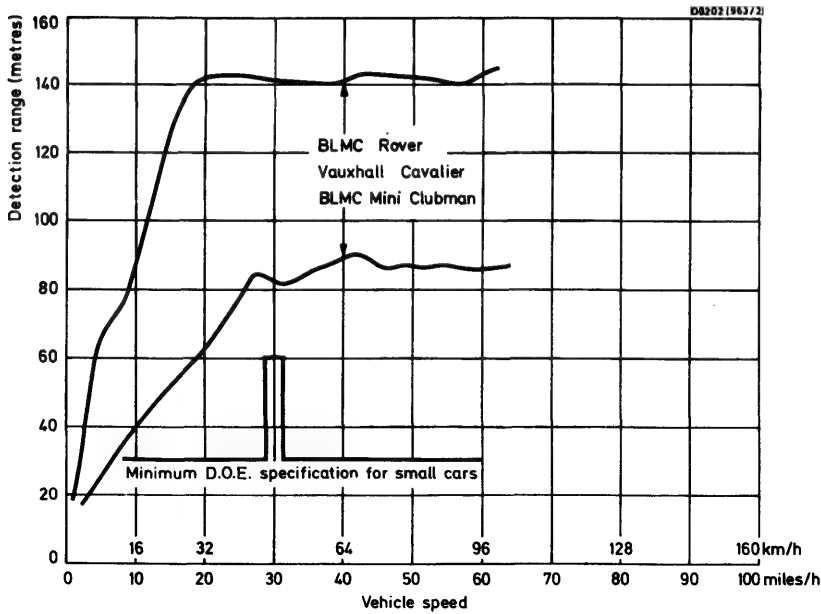

Fig.2 Detection curves obtained from road tests using six different traffic radar sensors
3. Arrange for a vehicle, preferably a small car, to be driven towards and past the sensor at approximately 30 m.p.h. When the car is between 140 and 80 metres from the sensor (see fig.2), the measured resistance between the normally-closed contacts should quickly increase to indicate an open-circuit. This condition should continue for approximately 1 second after the car has passed out of the sensor's detection range.